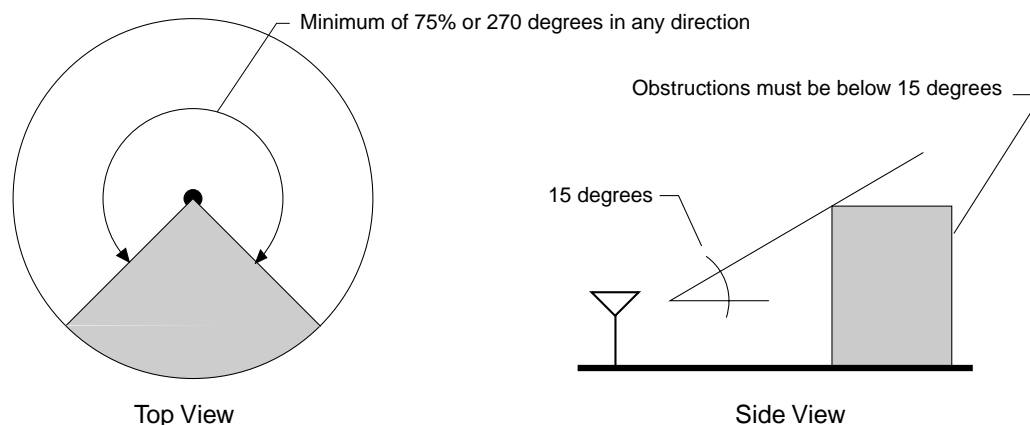

Figure 2–7 GPS Minimum Sky-View Requirements
- Located to provide the widest possible view of the sky (a tree or building can block signals from the satellite), see Figure 2–7.